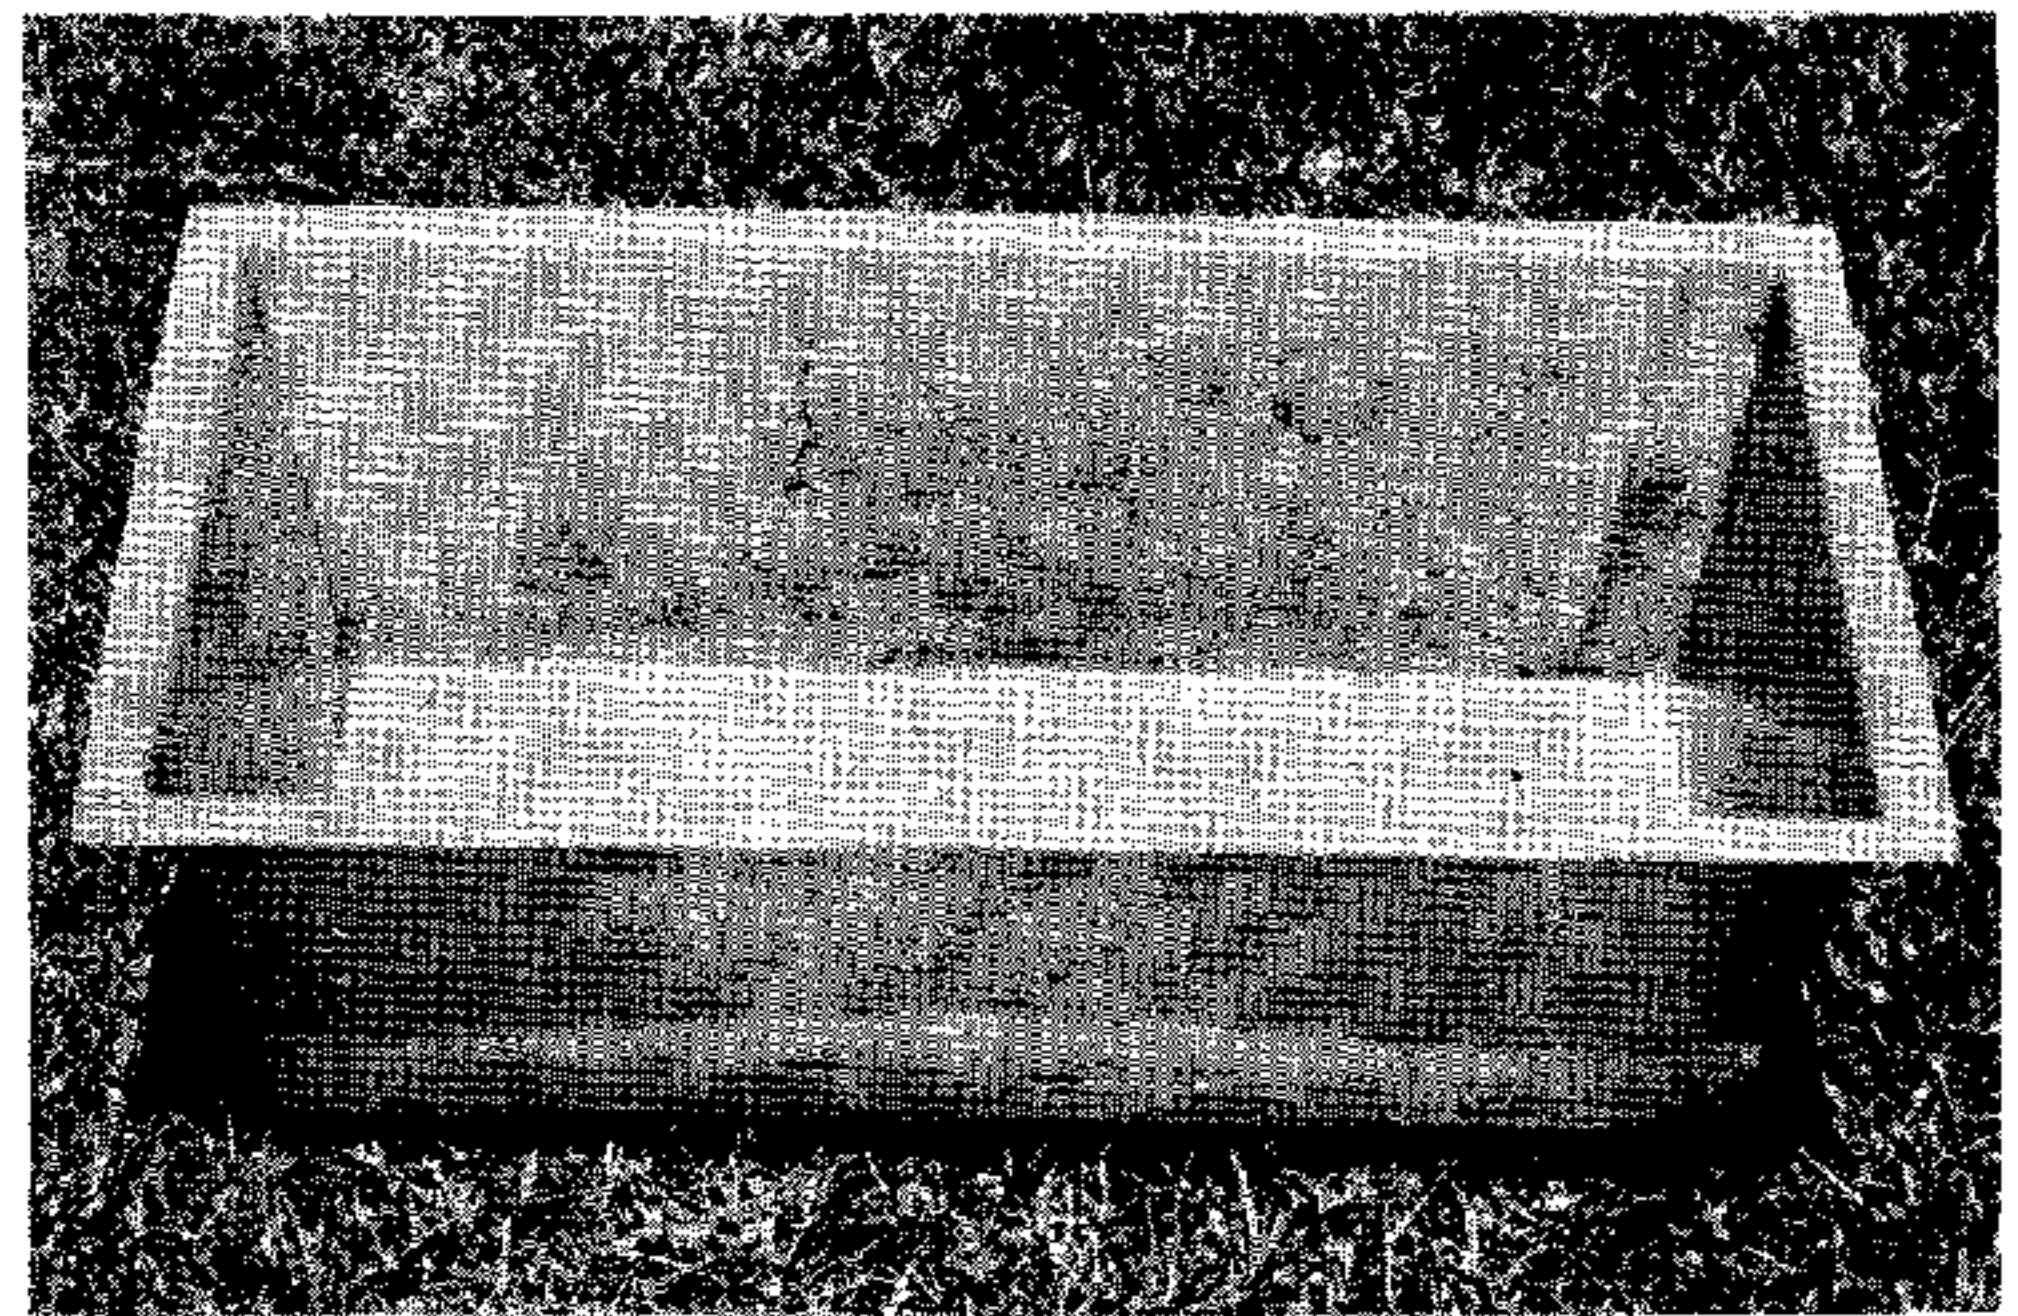
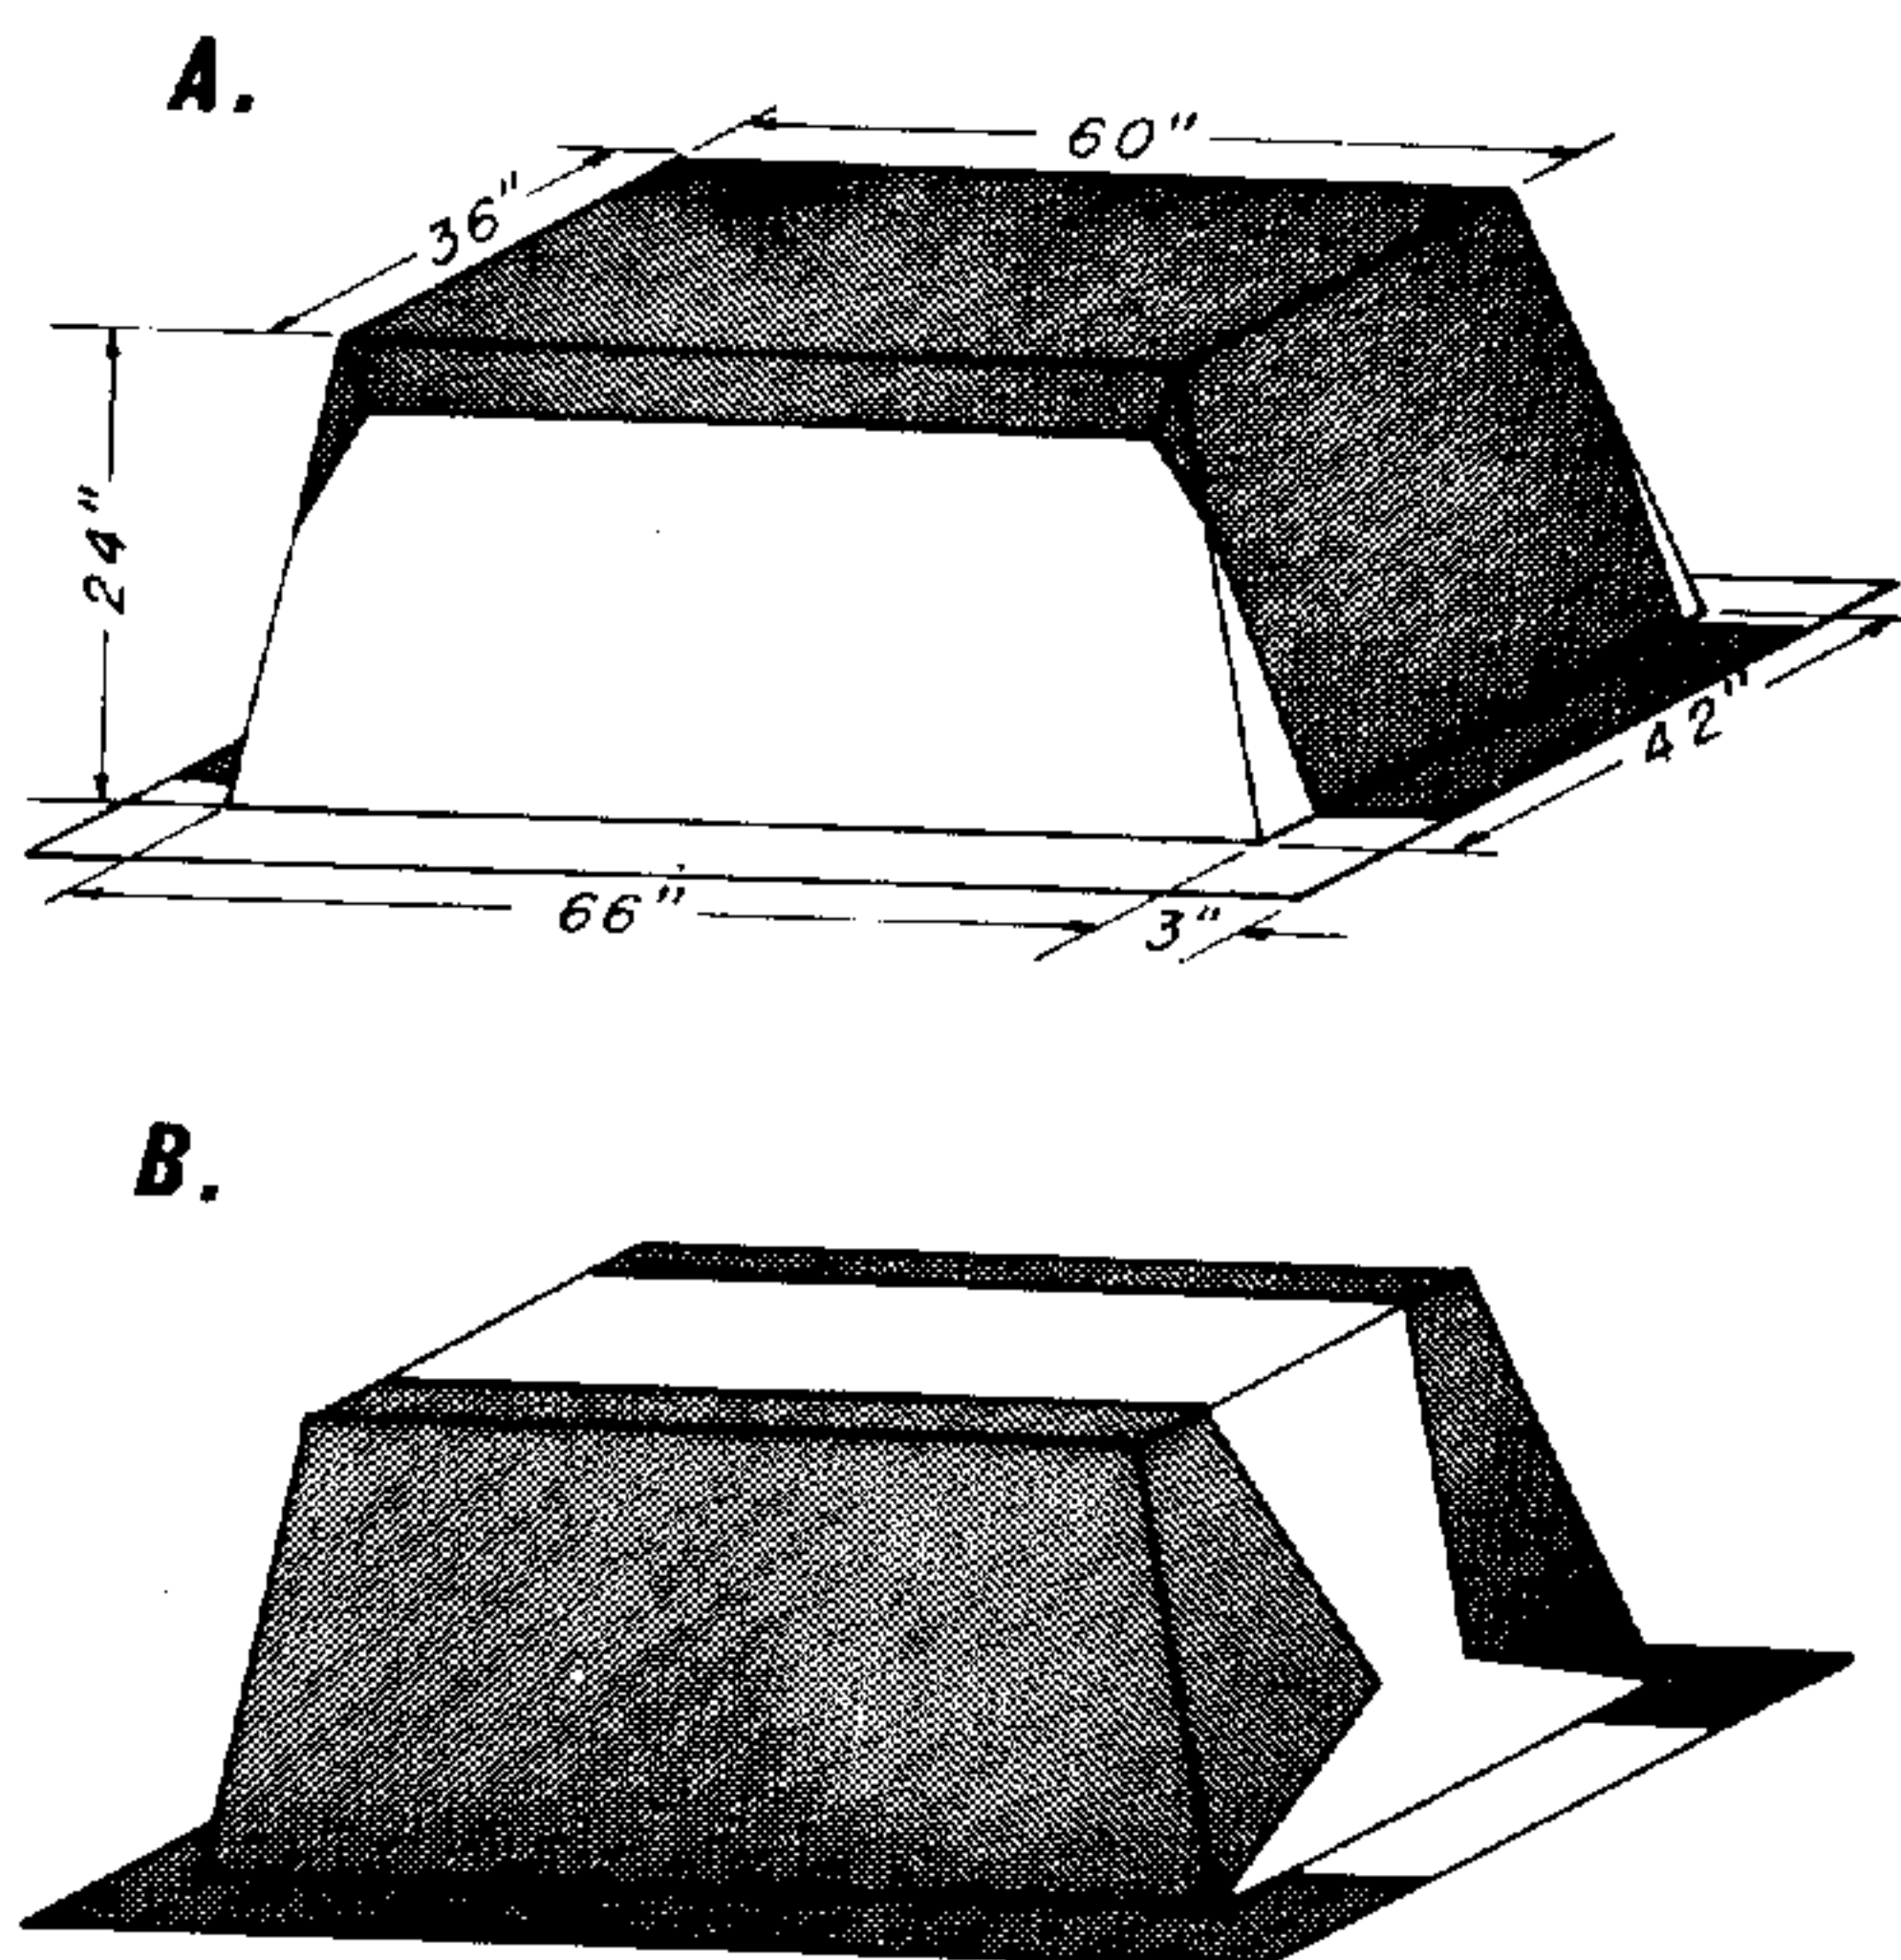

FIGURE 1.--The completed 250-gallon three-ply fiberglass tank.
FIGURE 2.--Fiberglass lapping sequence and dimensions of the 250-gallon building form shown in inverted position.
We have standardized on the three-ply, 250-gallon container shown in figure 1. Materials and cost estimates for the tank and building form are listed in table 1.
1. Make the tank form out of plywood, designing it so that the finished tank has a flange around the top to provide stiffness. Slope the sides inward somewhat to facilitate removal of the finished tank (figure 2). Sand the form as smooth as possible and round all edges and corners to a radius of about 1/4 inch.
4. Apply the side pieces (figure 2, B) and repeat the painting and smoothing.
Instructions for building a tank (figure 1) on the form (figure 2) are as follows:
1. Cut a piece of fiberglass cloth long enough to cover the tank ends, bottom, and part of the flange extending from the ends. The 38-inch cloth will overlap the bottom and part of the ends (figure 2, A). Stretch the cloth slightly to eliminate wrinkles. The adhesive between the form wax and the cloth will hold the latter in place.